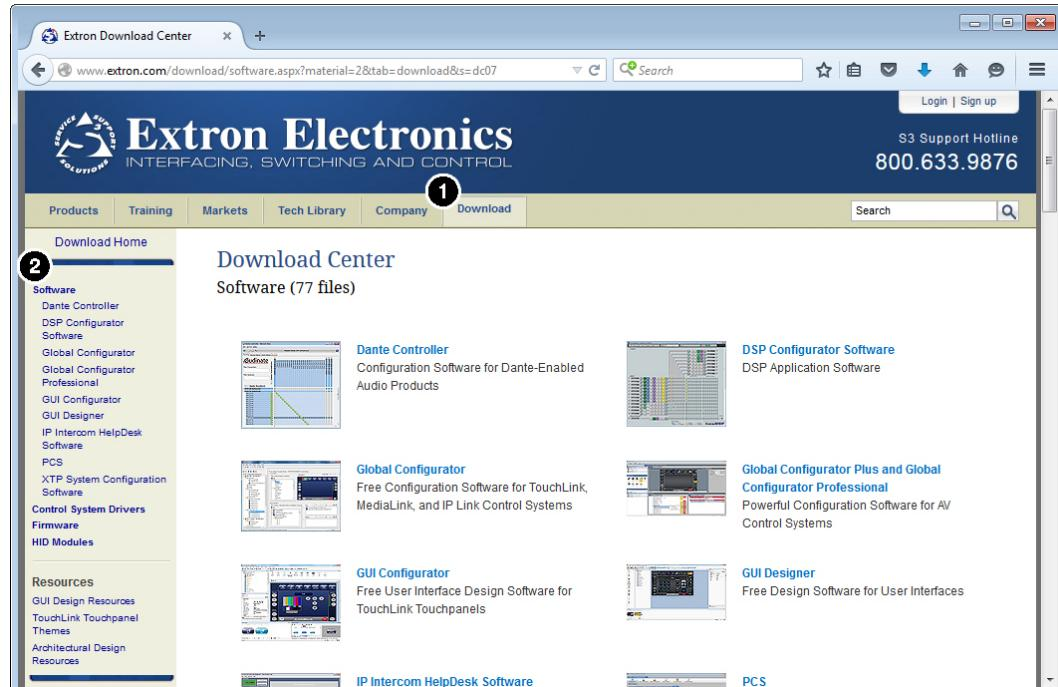

Figure 33. Download Center Page on the Extron Website
1. On the Extron website, select the **Download** tab (see **figure 33**, ① on the previous page).
2. From the left sidebar, click the **Software** link (②).